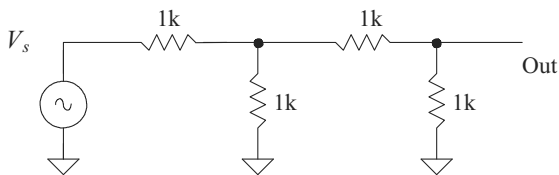

Figure 8.48 Circuit for Problem 8.5.
- 8.6** Estimate the RMS output noise over an infinite bandwidth for the circuit in Fig. 8.48 if the output is shunted with a 1 pF capacitor.